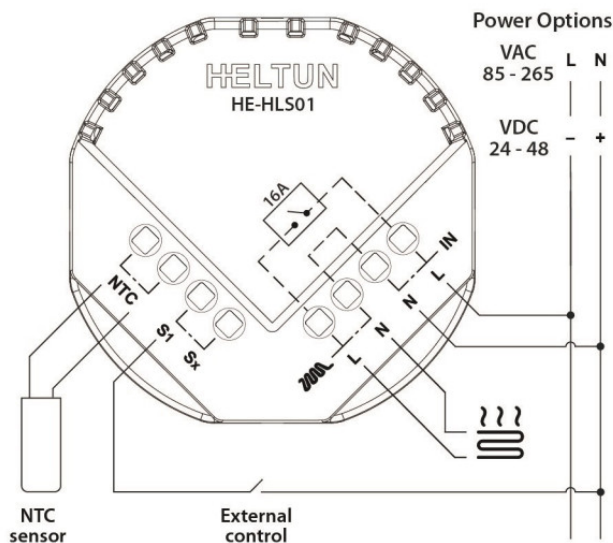

Figure 4: Connection diagram 1
- Connect S1 to electric network Line through dry contact switch (as in Figures 4 & 5)